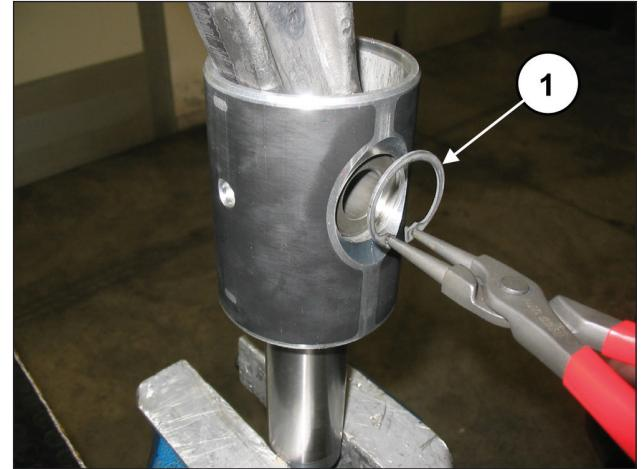

Fig. 36
Remove the spindle (pos. ①, Fig. 36) and extract the conrod (pos. ①, Fig. 37).
Insert the conrod in the piston guide (pos. ①, Fig. 37) and then insert the spindle (pos. ①, Fig. 36). Fit the two circlips with the circlip pliers (pos. ①, Fig. 35).